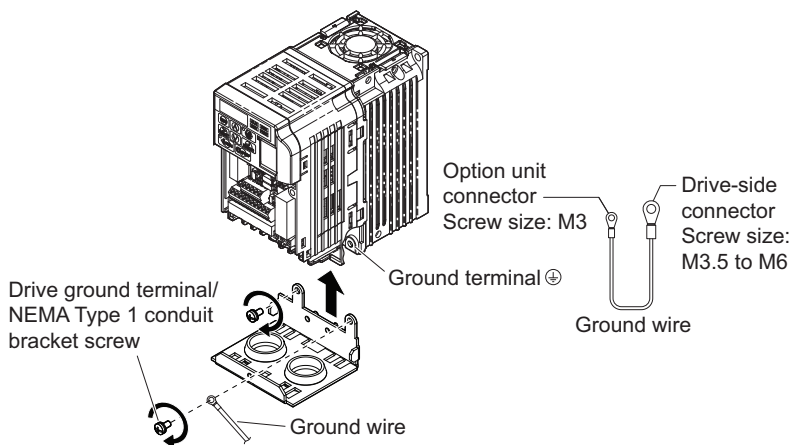

Figure 11 Reattach the NEMA Type 1 Conduit Bracket and Connect the Ground Wire for models CIMR-V□BA0001F to BA0003F, 2A0001F to 2A0006F
8. On NEMA Type 1 enclosure models (CIMR-V□BA0001F to BA0003F, 2A0001F to 2A0006F), the screw for the drive ground terminal also acts as one of the screws that attaches the NEMA Type 1 conduit bracket to the drive. Reattach the NEMA Type 1 conduit bracket according to Figure 11 and connect the drive-side of the ground wire to the drive ground terminal.